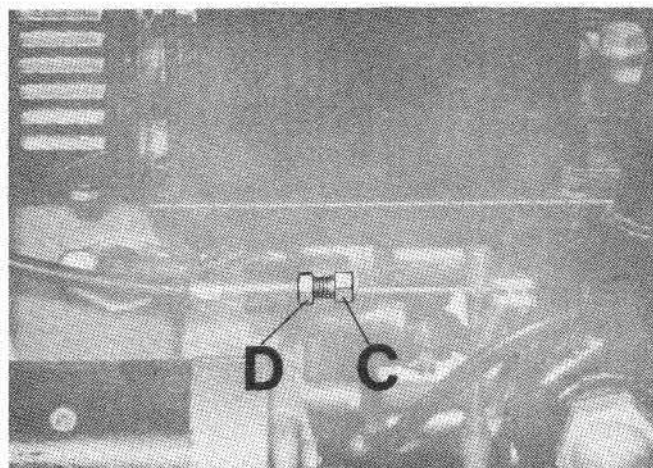

Fig. 73
Check that clutch lever on L/H side of handlebar has the correct free movement of about 4 mm. (1/8") between lever and static body of same. If play is more or less than that, adjustment is needed. Slacken thumb screw (B) and obtain correct distance screwing in or out adjuster (A). Adjustment can also be made slackening nut (D) and acting on adjuster (C) bolted on the battery support plate (see Fig. 73).